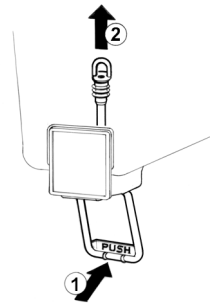

figure 2
- 5 **Pinch tube faucet:** push the dispensing handle (1) and take the pinch tube off from its
seat (2) (see figure 2).